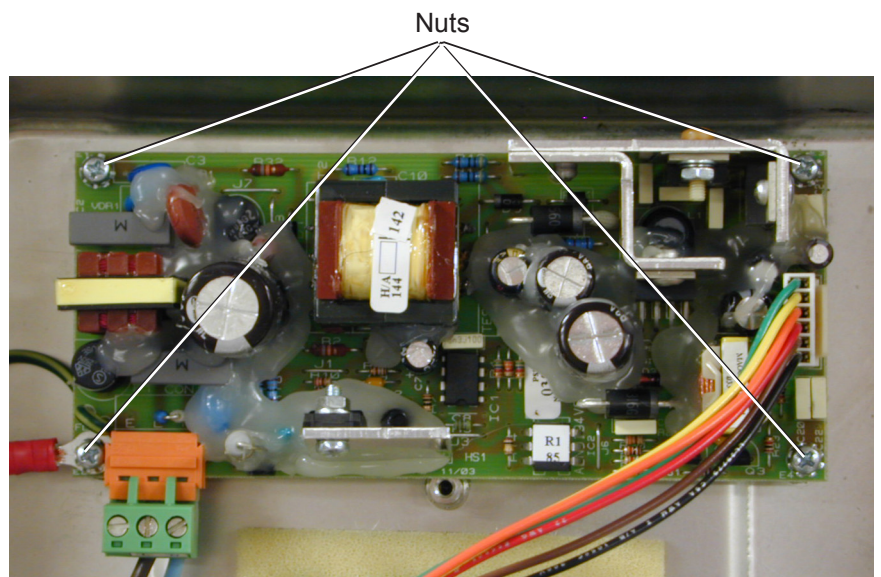

Figure 18
4. Remove the screws shown in Figure 18 to remove the power supply board.